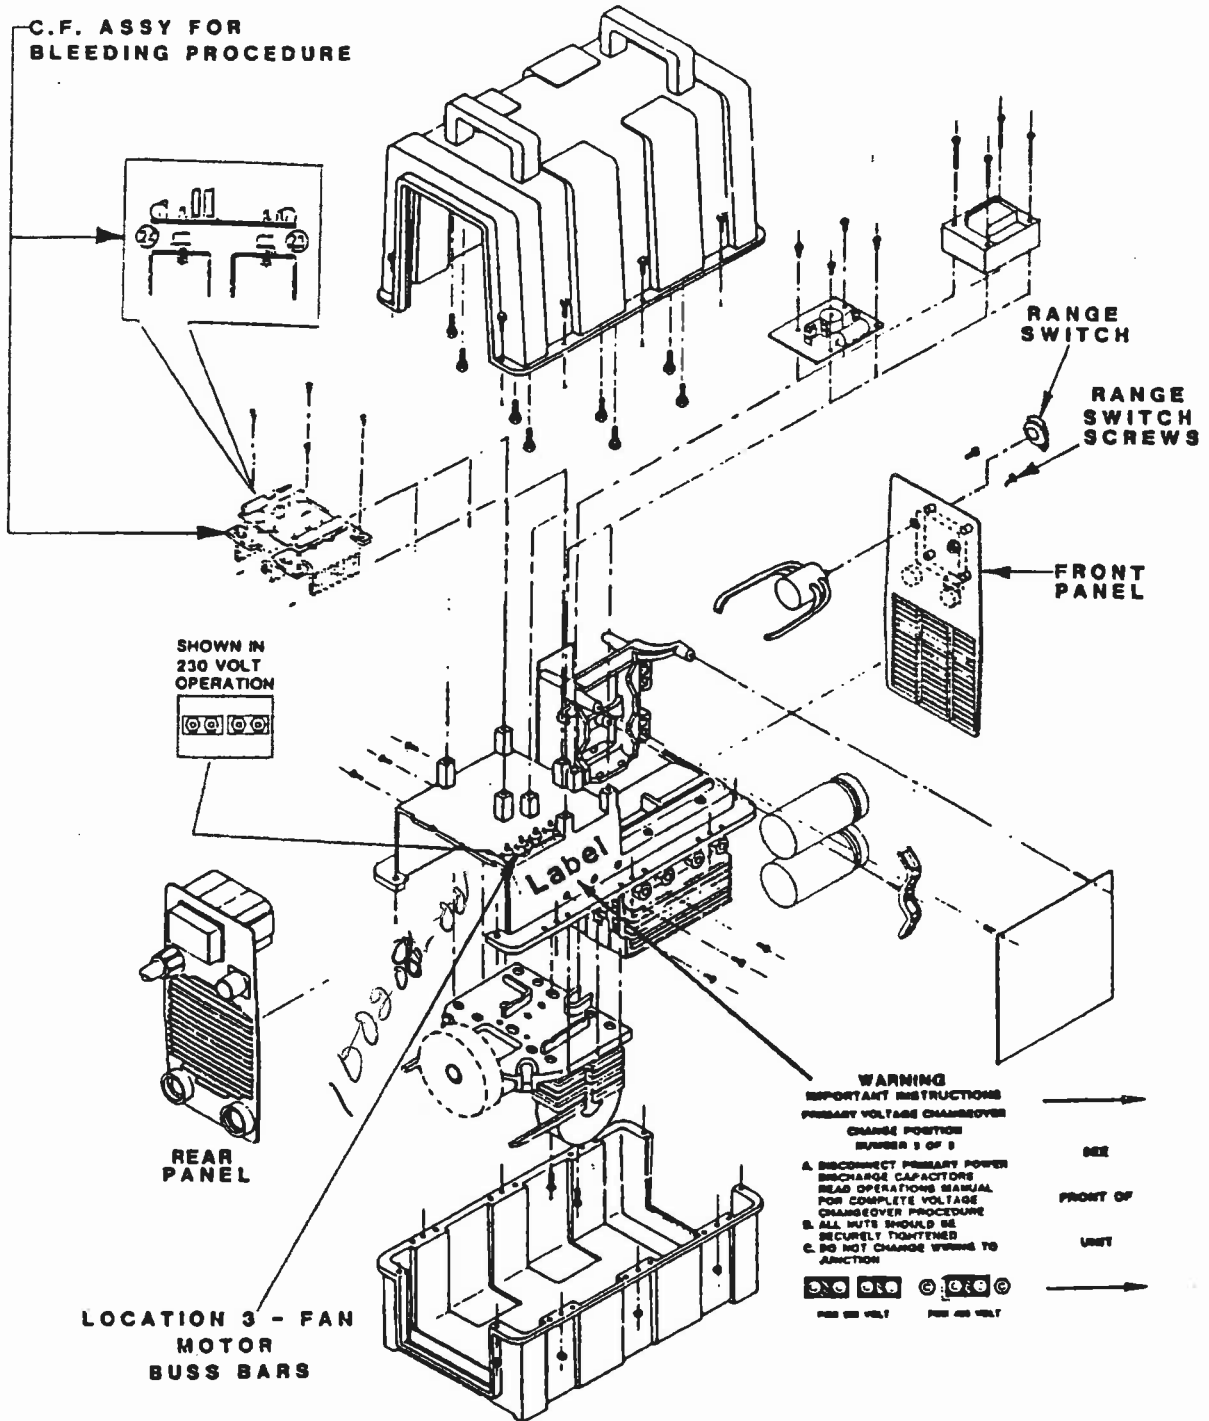

Figure 4, Location 3 Voltage Changeover
- 1) Working capacitor board (right front side of unit, see Figure 4).
- 3) Copper buss bars for main transformer (front of unit, see Figure 4).
A) Locate the instruction label for the copper buss bars shown in Location 2 of Figure 4.